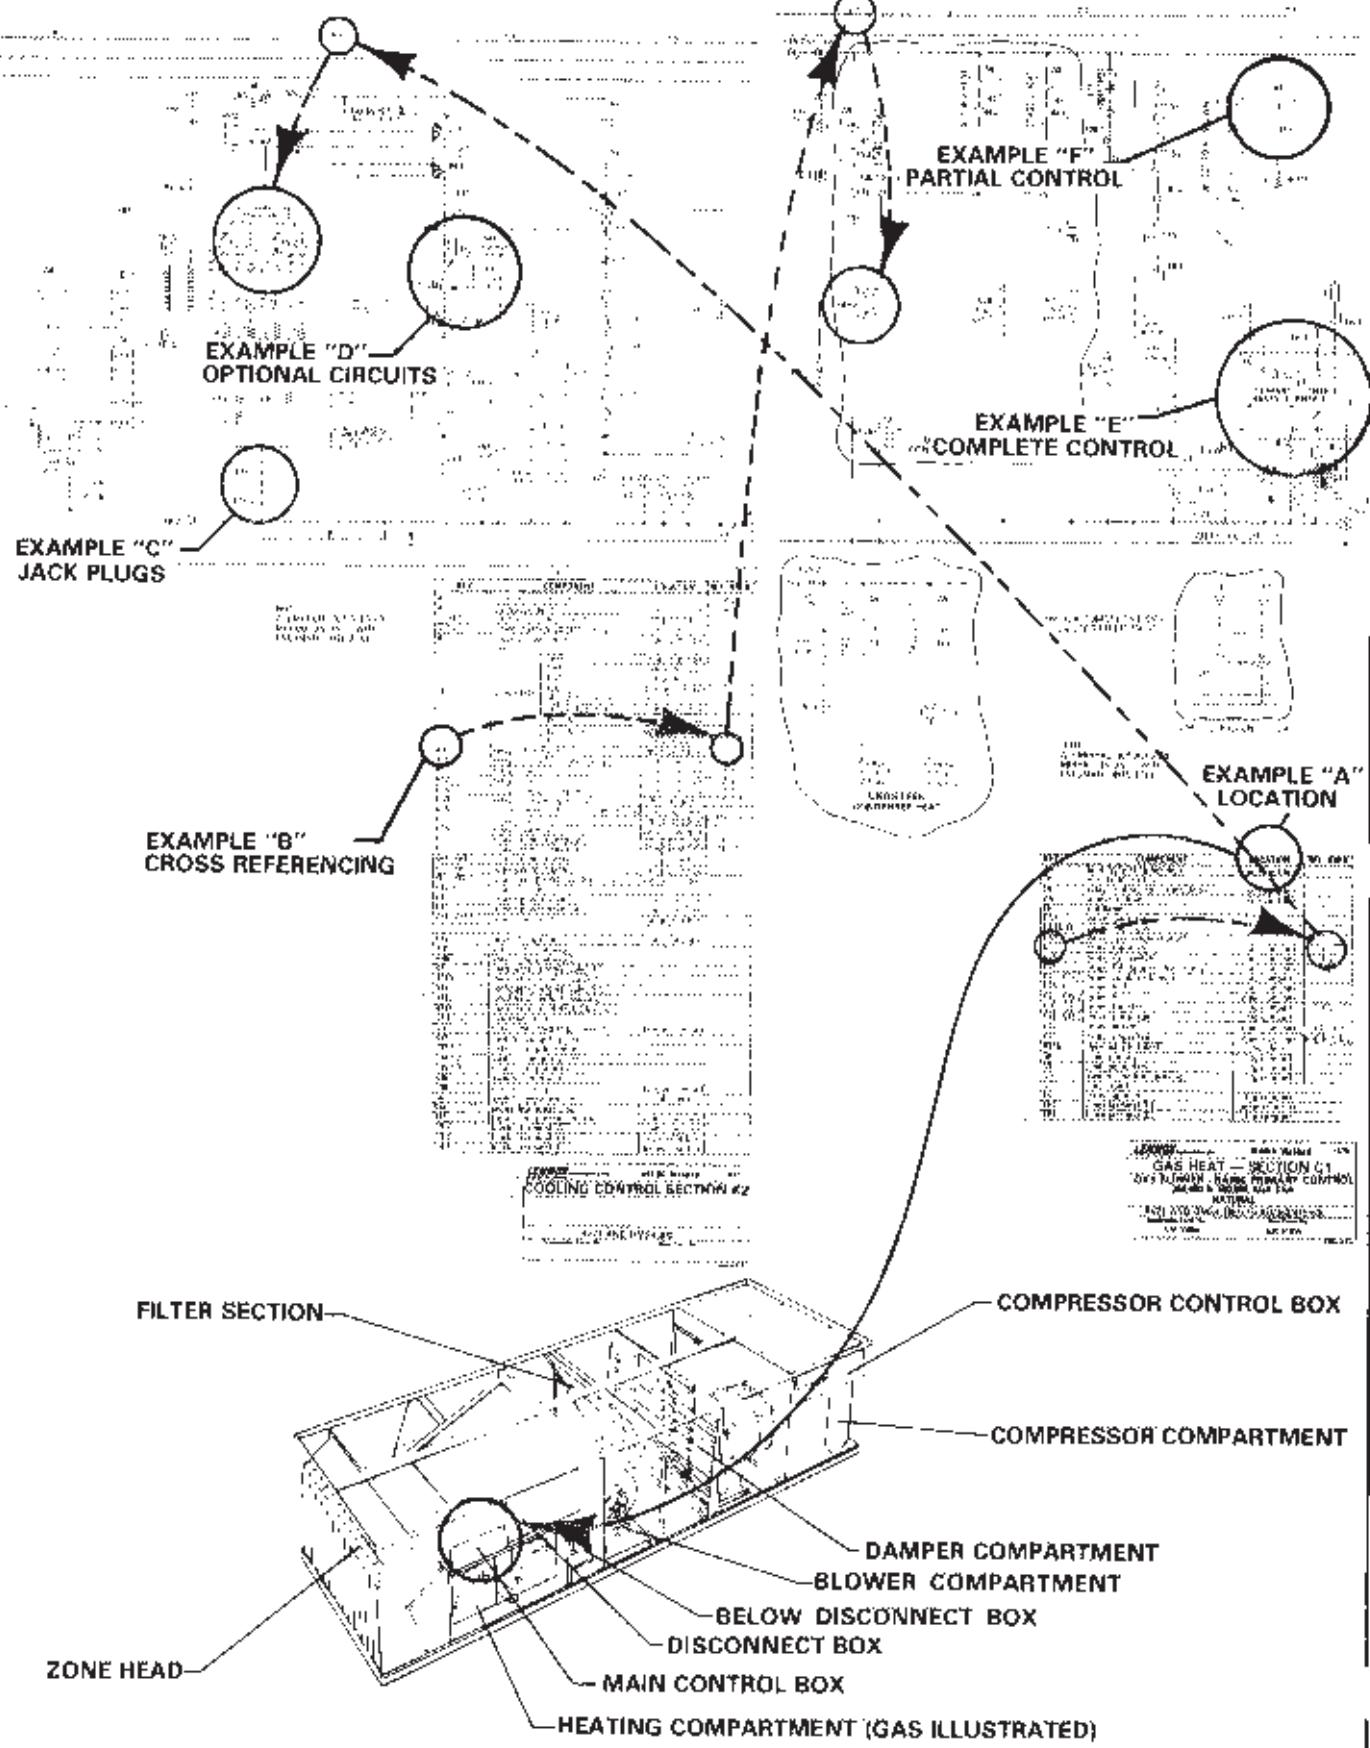

FIGURE 24
- Location of component. See Example A in Figure 24
- Cross reference to other diagram sections. See Example B in Figure 24.
- Jack plugs are shown in the schematic circuit by both jack plug number and terminal number. In Example C of Figure 24, JP17-2 indicates jack plug number 17 and terminal number 2.